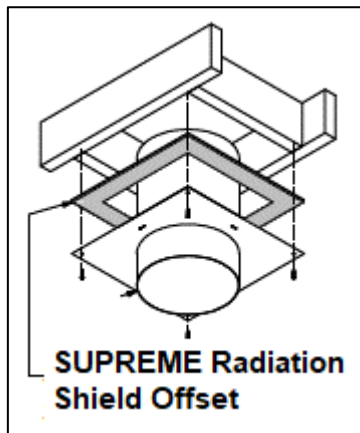

Figure 2-10: SUPREME Radiation Shield Offset
The SUPREME Radiation Shield Offset is a standard component for the Elegance 40 fireplace (Figure 2-10). Prior to installing the chimney manufacturer's radiation shield, the SUPREME Radiation Shield Offset is fastened below the chimney opening within the chase, with the flanges along the component providing a  $\frac{1}{2}$ " offset.
2. For an installation with the chimney running through the ceiling, install the SUPREME Radiation Shield Offset below the chimney opening prior to installing the radiation shield (refer to Figures 2-10 and 3-7).